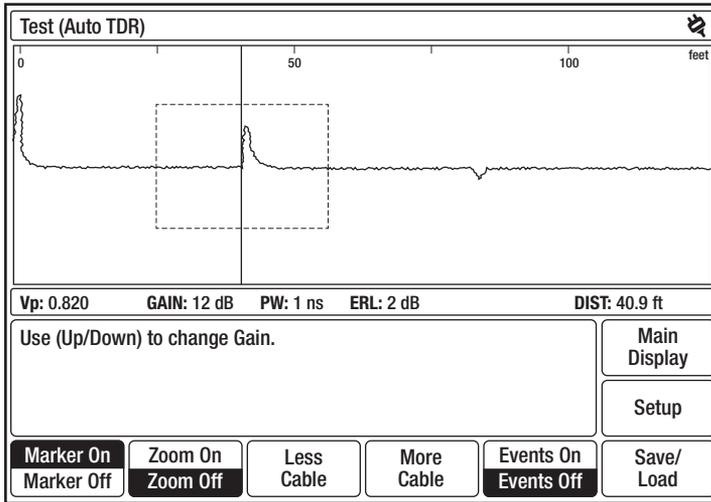

Figure 4-7: Test (Auto TDR)
6. If you selected TEST, press **Return to Test** to view the waveform for your test cable. Figure 4-7 shows a waveform for a TEST in Auto TDR.